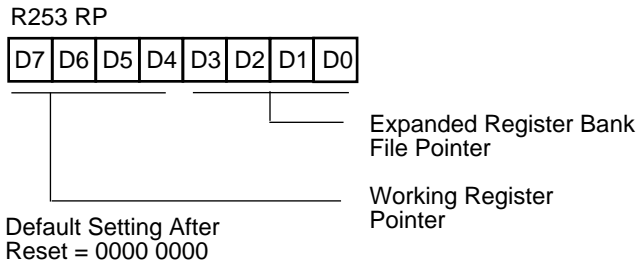

Figure 15. Register Pointer
**Comparator Outputs.** COMP1 may be programmed to be outputted on P34 through the PCON register (Figure 15).